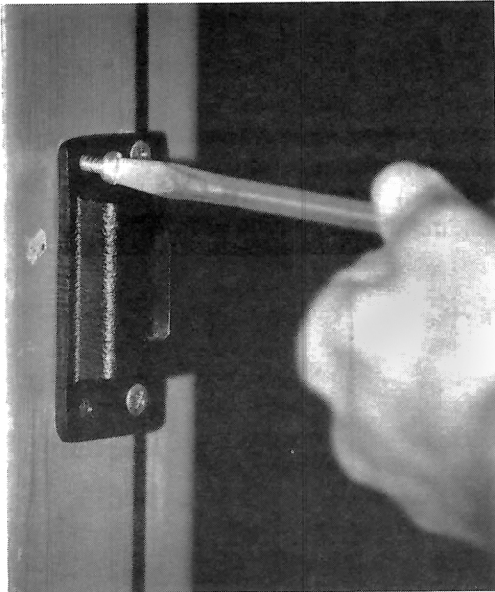

Figure 3
5. Install the strike with the five (5) #10 screws provided. Refer to the photograph in Figure 3.